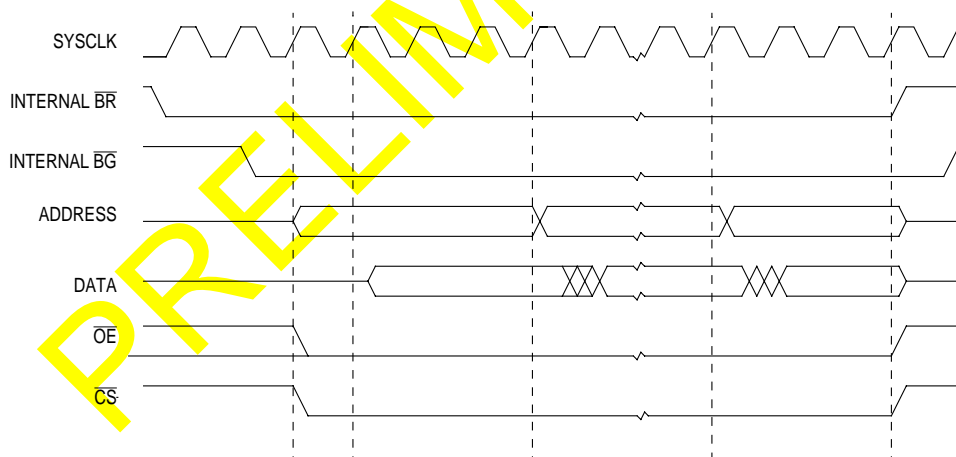
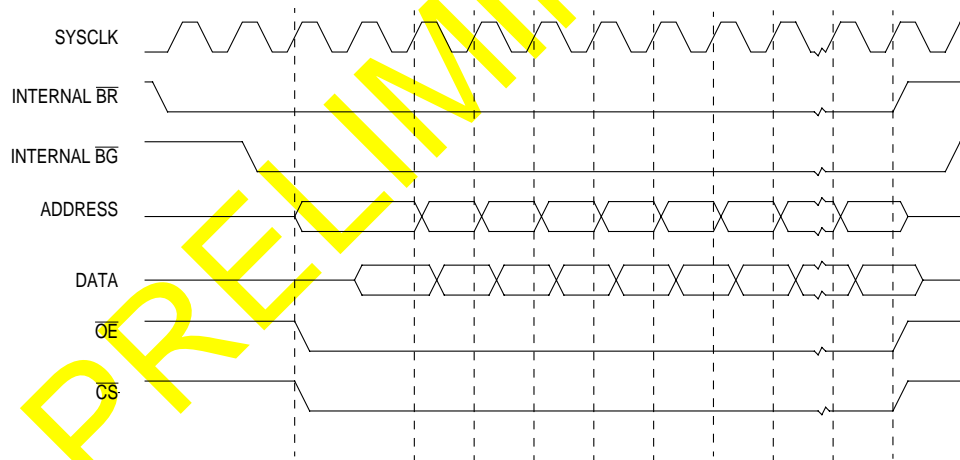

Figure 8-2. Three Clocks per LCD DMA Transfer (Two Wait States)
Figure 8-3. One Clock per DMA Transfer (0 Wait States)
The screen DMA controller periodically generates a bus request ( $\overline{BR}$ ) signal to the MC68EC000 core and when it receives a bus grant (BG) signal, it performs a 16- or 8-word memory burst to fill the line buffer. You can program the number of DMA clock cycles (1 to 16) per transfer to support systems with variable memory speed requirements. When the DMA transfer begins, one clock cycle is added to the first data word has one clock cycle added to the transfer and the number of clock cycles selected. As shown in Figure 8-2 and Figure 8-3, this gives the initial chip-select memory more time without generating a clock cycle penalty on subsequent data transfers of the line fill.
As shown in Figure 8-2 and Figure 8-3, data is efficiently fetched from memory. Each burst is limited to 8/16 words, which reduces the possible latency for other peripherals, such as the interrupt controller. For example, the average latency for LCDCLK = 5MHz with a 16-word burst is approximately 2.4 $\mu$ s.
**8.2.2.1 LCD DATA BUS SIGNALS.** The LD3–LD0 signals output bus transfers pixel data to the LCD panel for display. Data is arranged differently on the bus depending on the LCD data-width mode selected, as shown in Figure 8-3. System software can also program the output pixel data to be inverted. See **Section 8.6.2 Polarity Configuration Register** for more information.